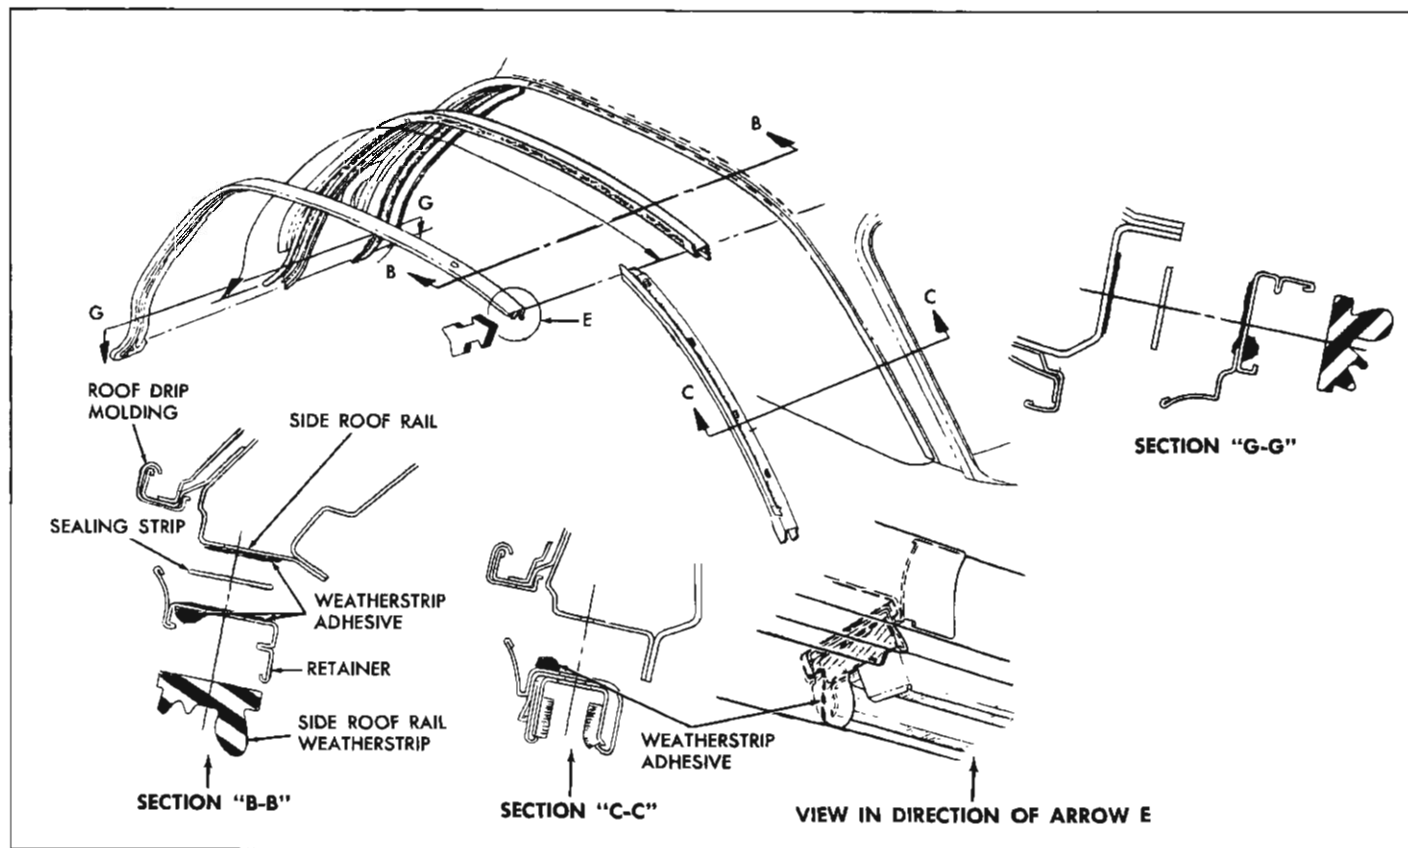

Fig. 16—"37" Style Roof Rail Weatherstrip Assembly
2. Apply a continuous bead (approximately 3/16" diameter) of weatherstrip adhesive along entire outboard surface of side roof rail weatherstrip retainer (see Section "B-B" in Figure 16).
3. Apply weatherstrip cement to rear end of side roof rail weatherstrip and cement weatherstrip to front end of rear quarter window sealing strip (see view "E" in Figure 16).